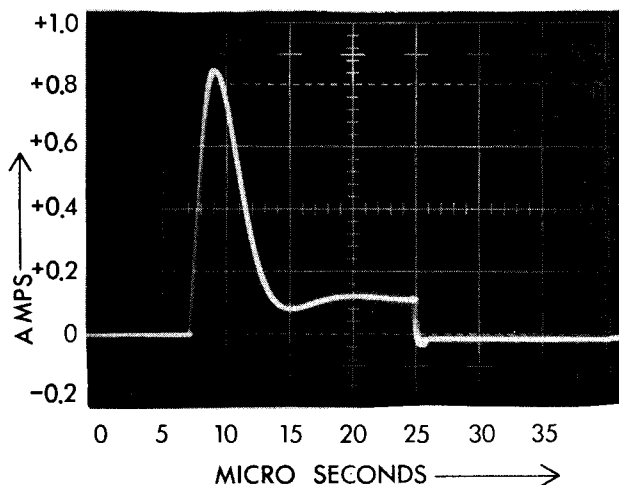
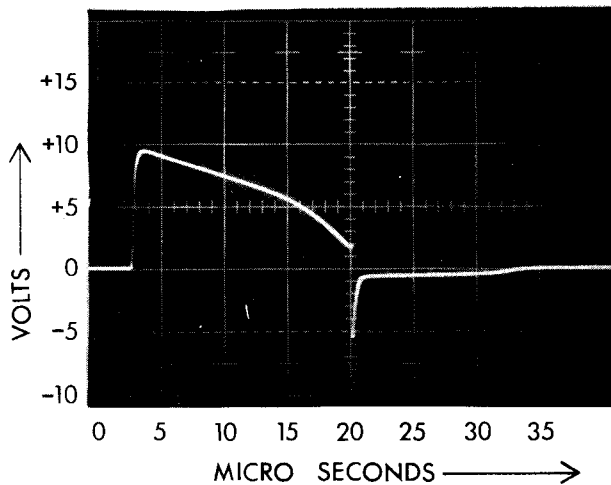

FIGURE 8
FIGURE 9
- d. Current signal is shown on Figure 8 and voltage on Figure 9. If any of the above conditions are not met, the pulse shaping RC networks resistor 24R1, 24R2 or 24R3 and capacitor 34C1, 34C2, 34C3 may have failed or changed value drastically.